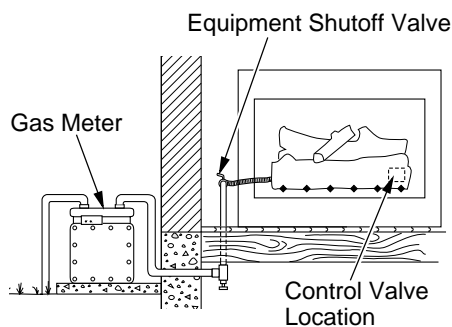

Figure 21 - Checking Gas Joints for Natural Gas
3. Check all joints from gas meter to equipment shutoff valve for natural gas or propane/LP supply to equipment shutoff valve for propane/LP (see Figures 21 and 22). Apply a noncorrosive leak detection fluid to gas joints. Bubbles forming show a leak.
4. Check all joints from equipment shutoff valve to control valve (see Figure 21 or 22). Apply a noncorrosive leak detection fluid to gas joints. Bubbles forming show a leak.